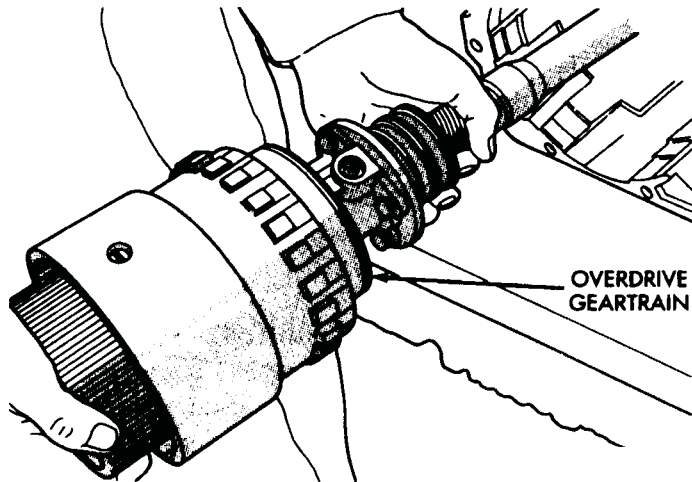

Fig. 11 Overdrive Geartrain Removal
(11) Remove geartrain assembly from housing (Fig. 11). Set geartrain aside.